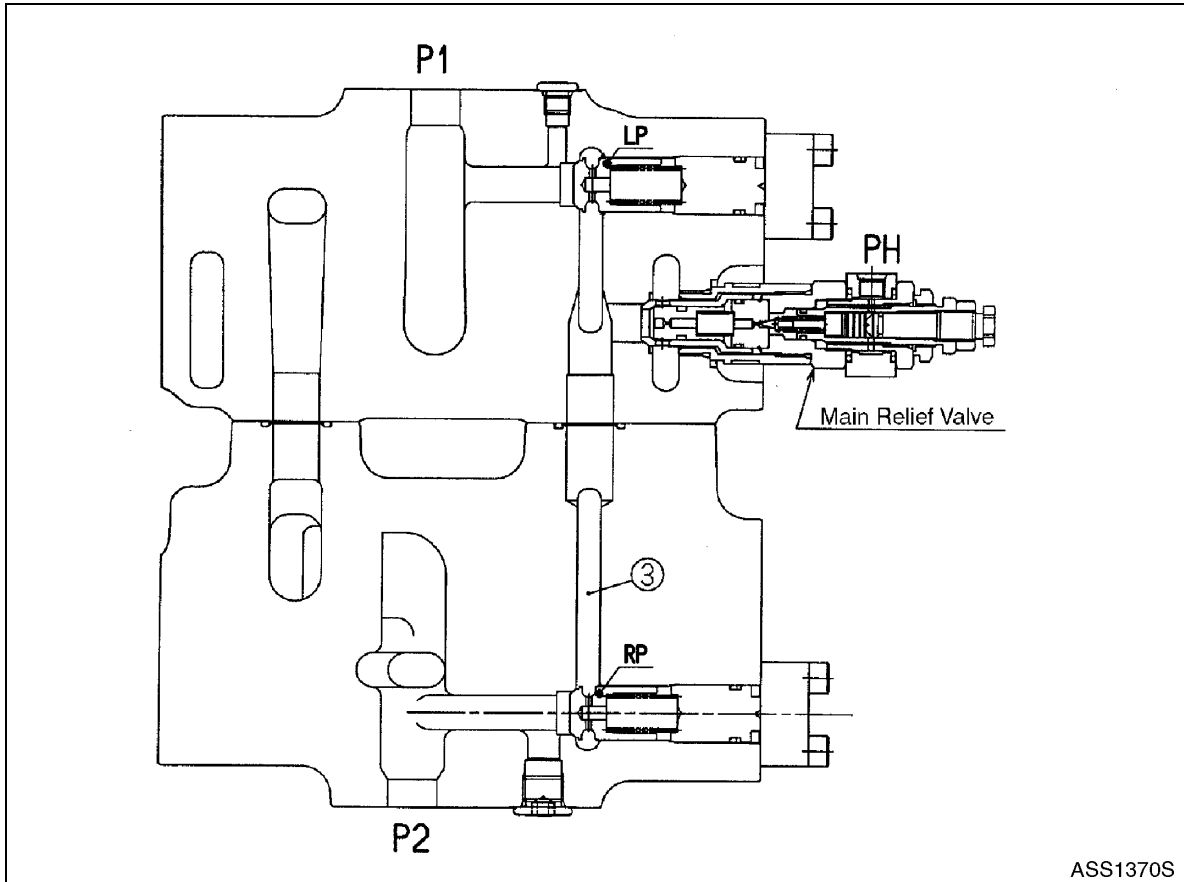

Figure 12
1. Main relief valve (Figure 12)